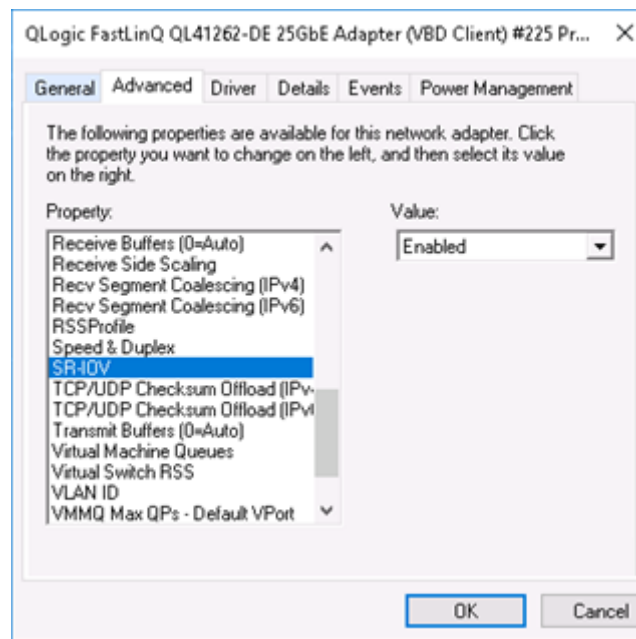

Figure 12-3. Adapter Properties, Advanced: Enabling SR-IOV
- c. On the Advanced properties page (Figure 12-3) under **Property**, select **SR-IOV**, and then set the value to **Enabled**.